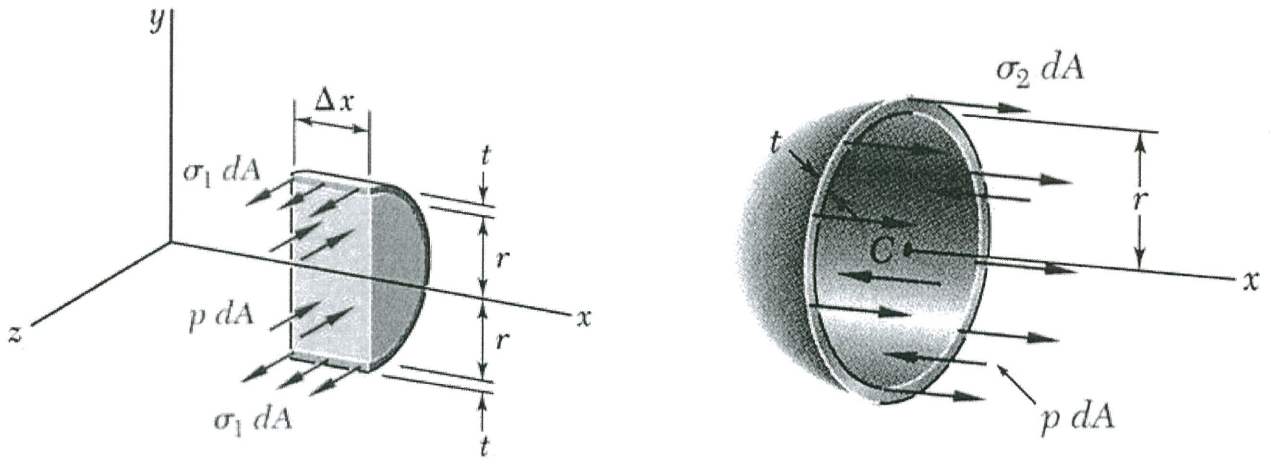

Figure Q6(a)
- Q6** (a) A pressure vessel is having a wall thickness (t), inner radius (r), and subjected to a gauge pressure (p) that developed within the vessel by a contained gas. By referring to **Figure Q6(a)**, derive the Hoop Stress (σ_1) and Longitudinal Stress (σ_2) applied for Cylindrical and Spherical pressure vessels. (15 marks)